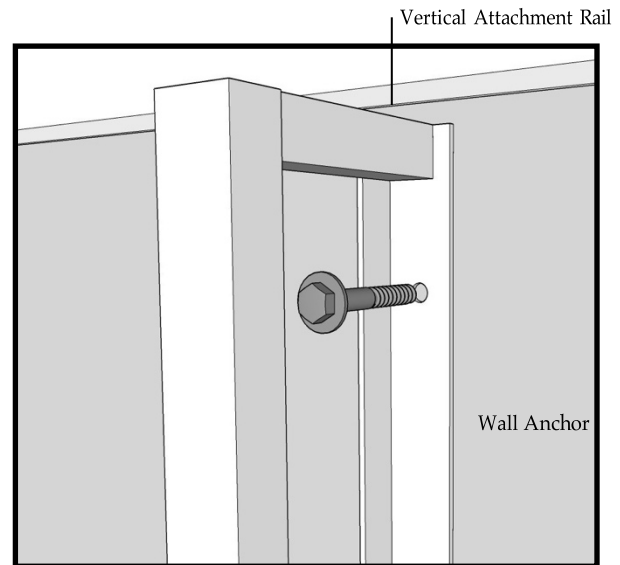

Fig 2
4. Continue mounting all Vertical Attachment Rails using provided hardware in the field kit (Fig 2). Seal any wall penetrations with the provided caulk.